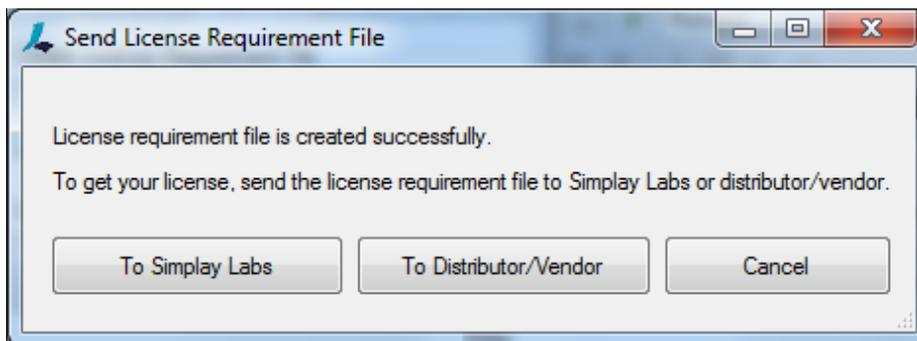

Figure 3.13. Send by Email Dialog
- The Send License Requirement File dialog pops up (Figure 3.13).